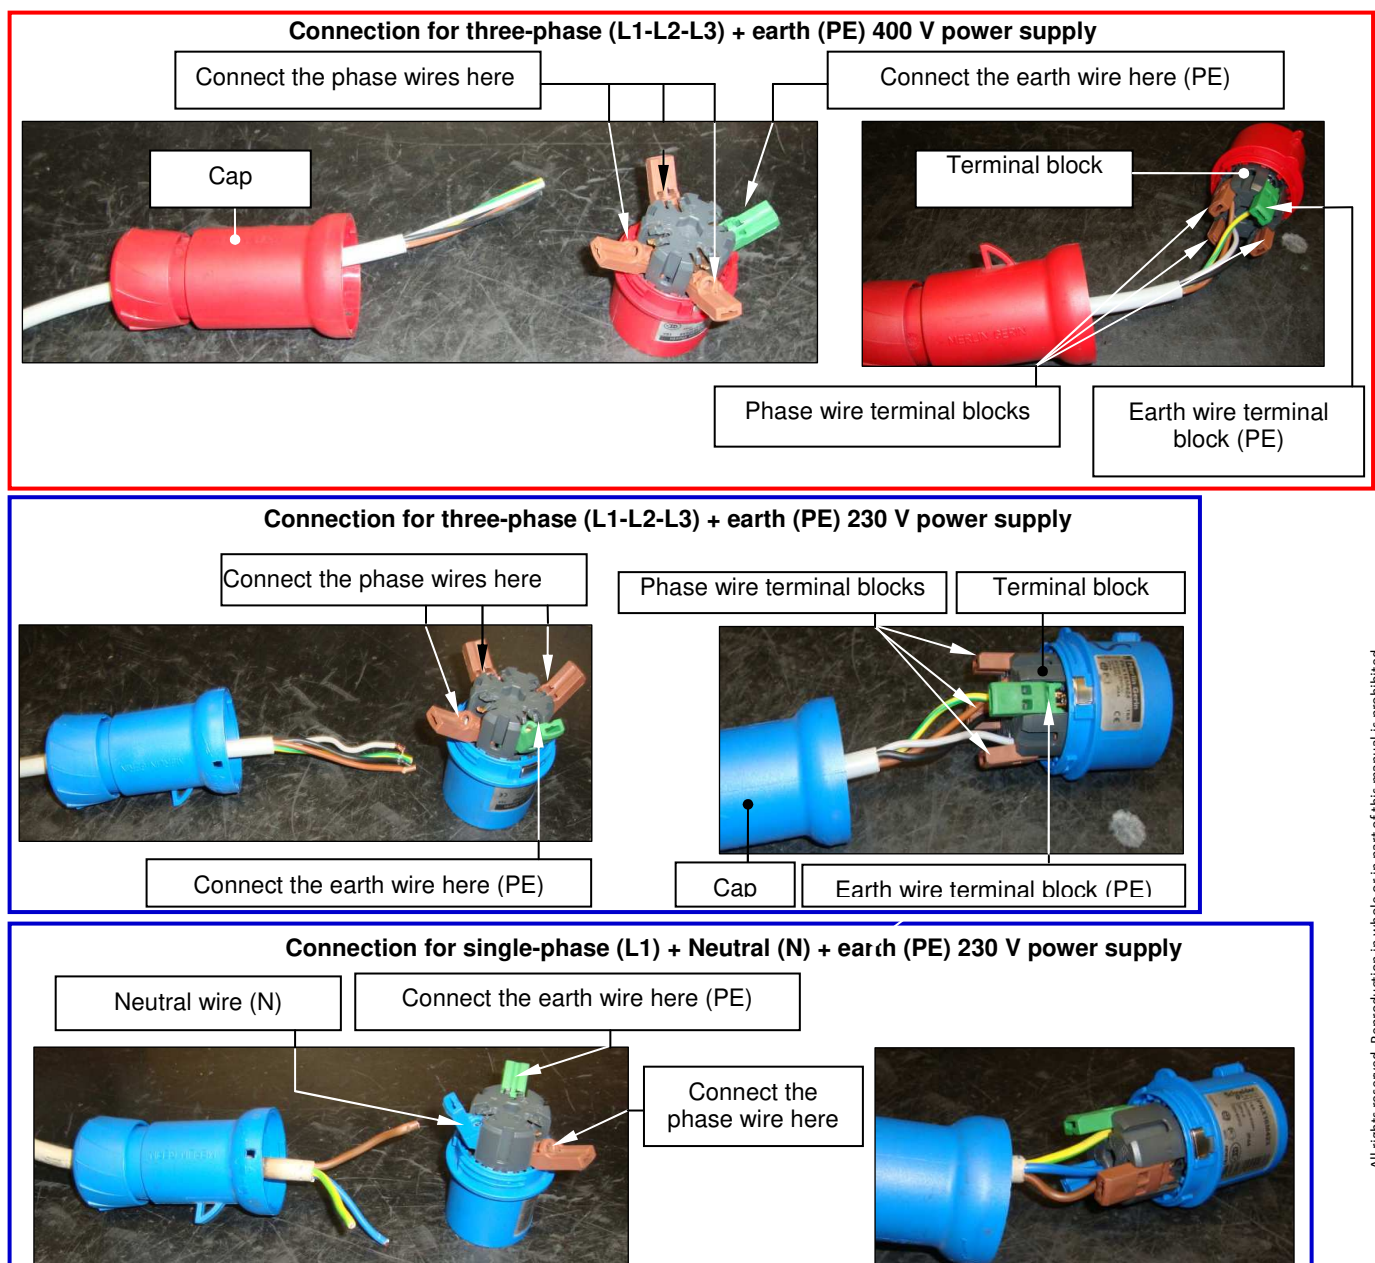

Figure 11 - Power cable plug
Some indications for doing this and how to install the most common types of plugs are shown in Figure 11:
- tighten the terminals and close the terminal block with the cap, as shown in Figure 11.
End Figure 11 - Power cable plug